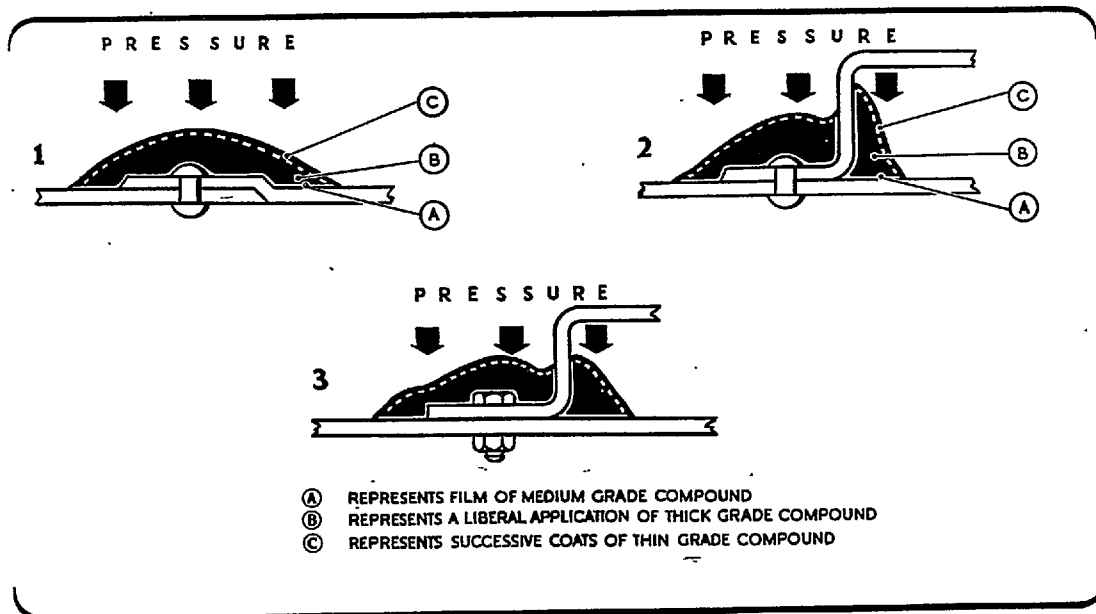

Fig. 5.—Typical applications of compounds to pressure cabin joints
25. Pressure cabin sealing compounds are applied to prevent the leakage of air under pressure through the joints of the pressure cabin to the rarefied external atmosphere. The compounds should only be used on the inner or pressure side of the cabin. They are useless if applied to the outside of the cabin because they will be blown off the joint as soon as air pressure is applied. The methods of application adopted for the various types of joints are shown in fig. 5.